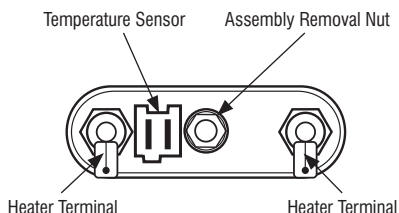

Figure 8 - Heater/Temperature Sensor Assembly
6. Disconnect the wire connectors from the heating element. See Figure 8.
6. Disconnect the temperature sensor connector from the heating element. See Figure 8, page 21.